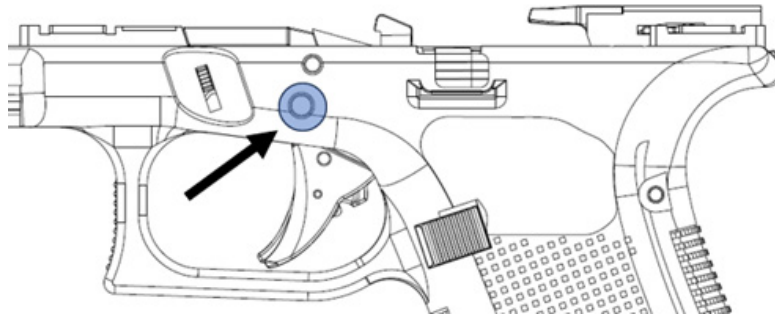

Figure 41: Trigger Pin location.
b) Punch out, from left to right, the Trigger Pin using the Glock Punch Tool (Figure 41).